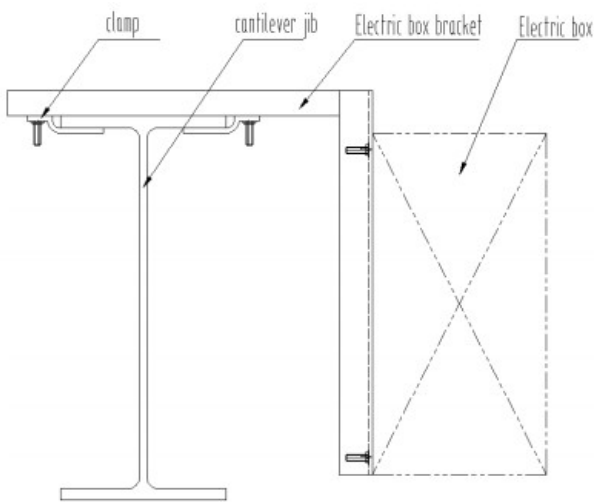

Figure 7-1-1
- a. Installation of electric control box (Figure 7-1-1).